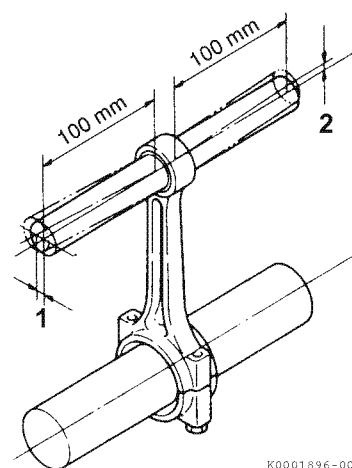
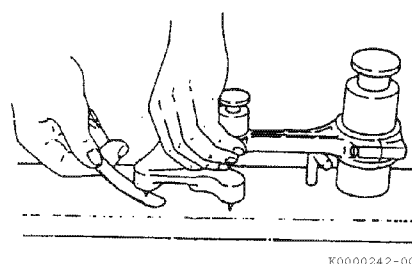

Figure 6-67
Figure 6-68
2. Measure the connecting rod twist (Figure 6-67, (1)) and bend (Figure 6-67, (2)) using a connecting rod alignment tool (Figure 6-68). Record the measurements. See *Connecting Rod* on page 6-9 for specifications.